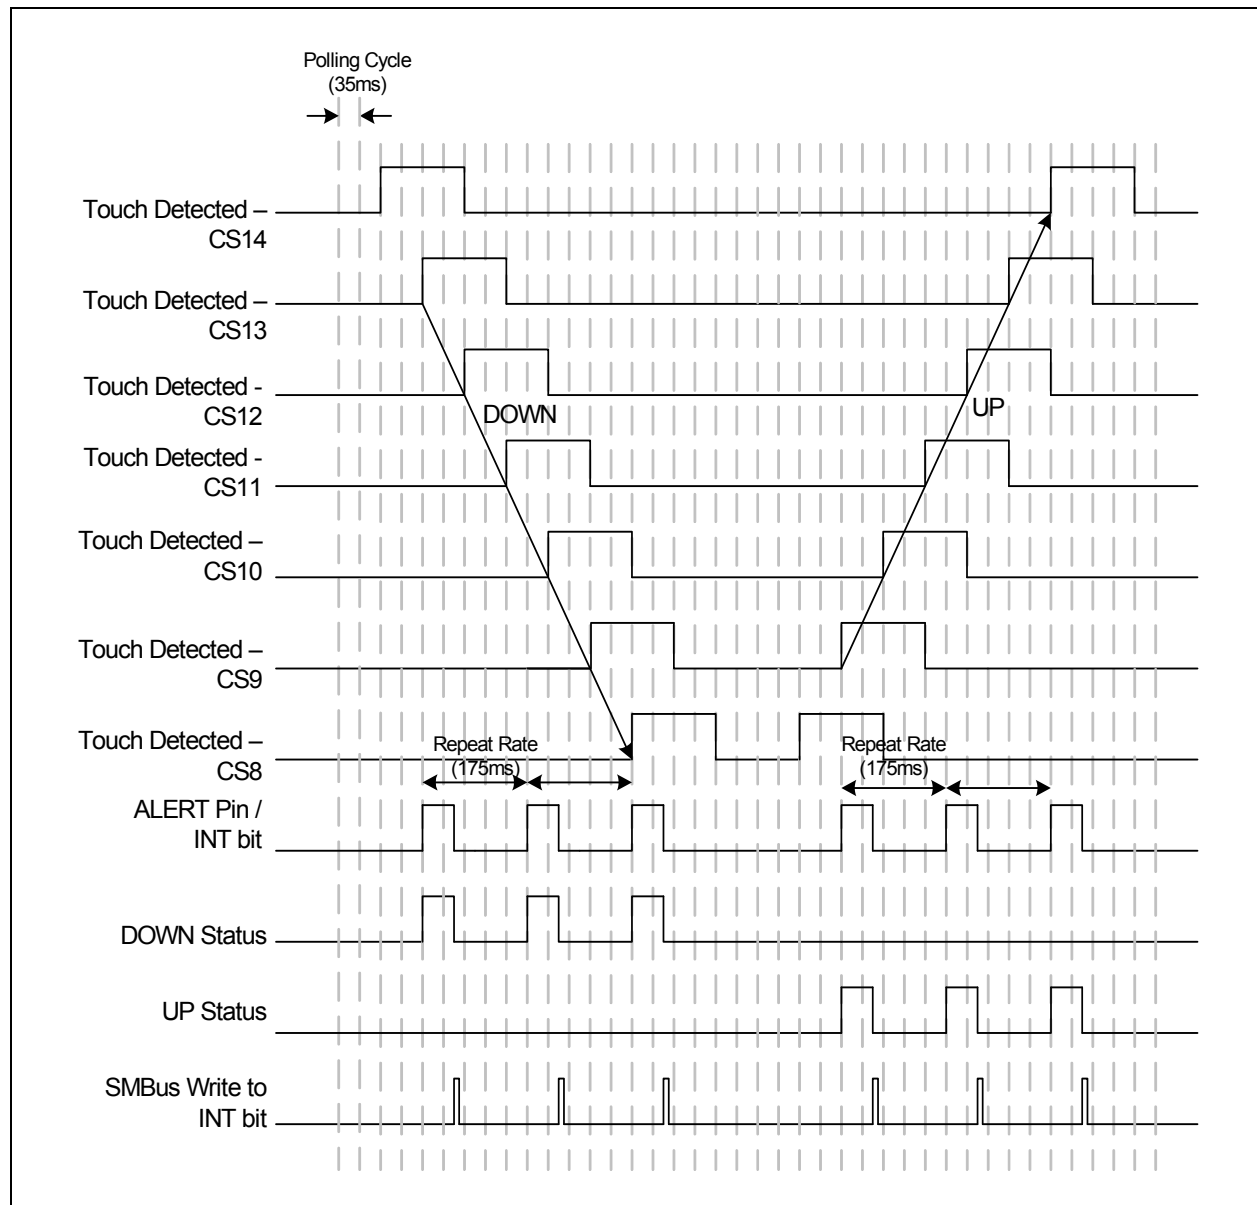
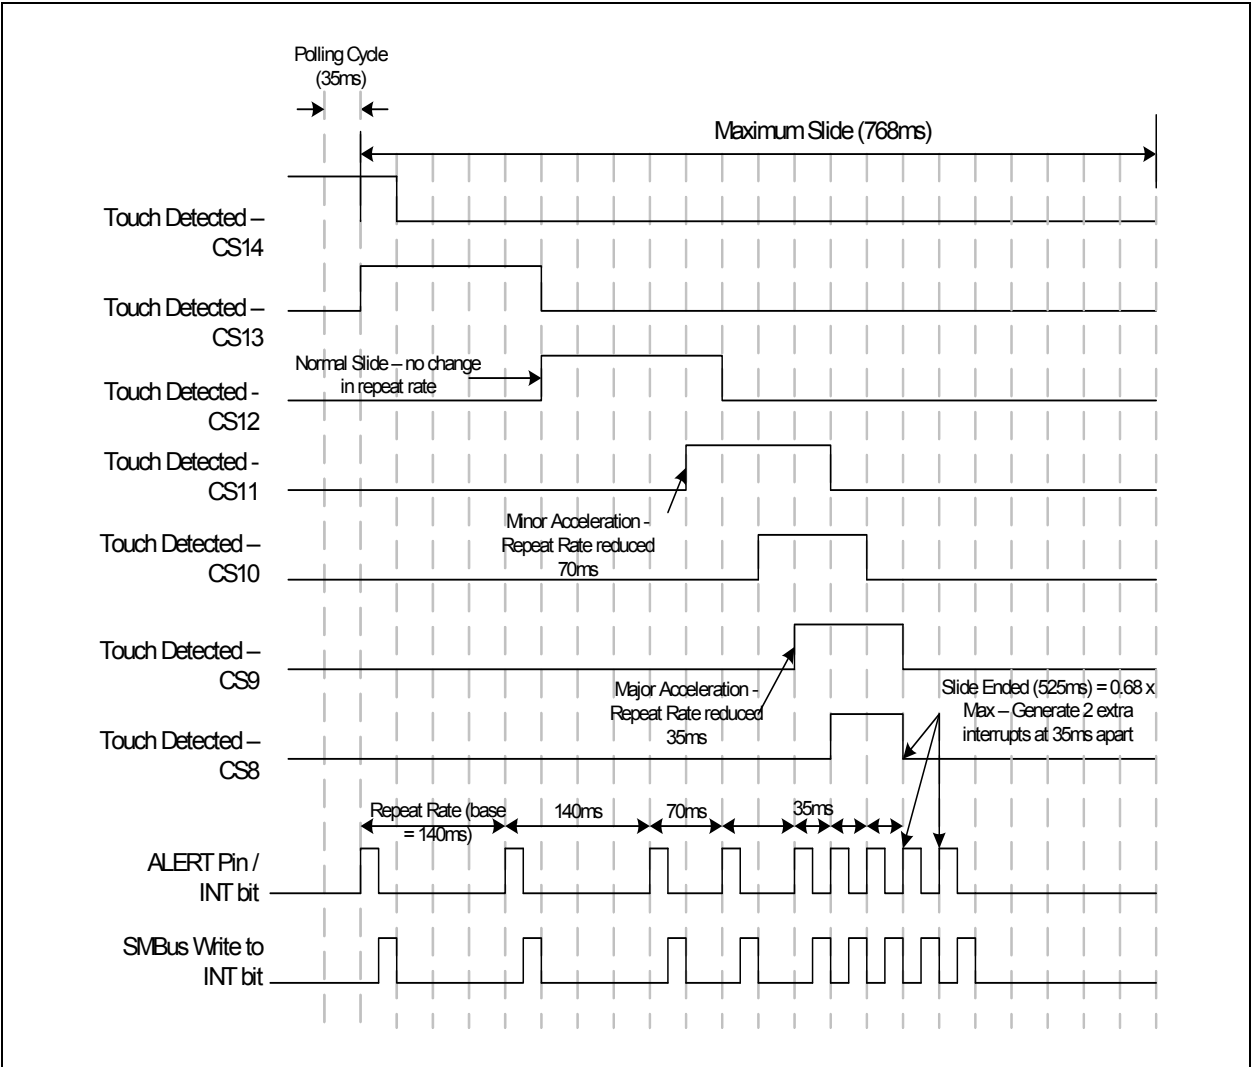

Figure 5.6 Slide Interrupt Behavior - No Acceleration
Figure 5.7 Slide Interrupt Behavior - Acceleration Example
1. For a slide event, an interrupt is generated based on the programmed repeat rate as well as the velocity of the slide operation. See Figure 5.6 and Figure 5.7. Additional interrupts are generated after the slide has finished. These extra interrupts are generated every round robin cycle (~35ms) and the number is determined by the speed of the slide.